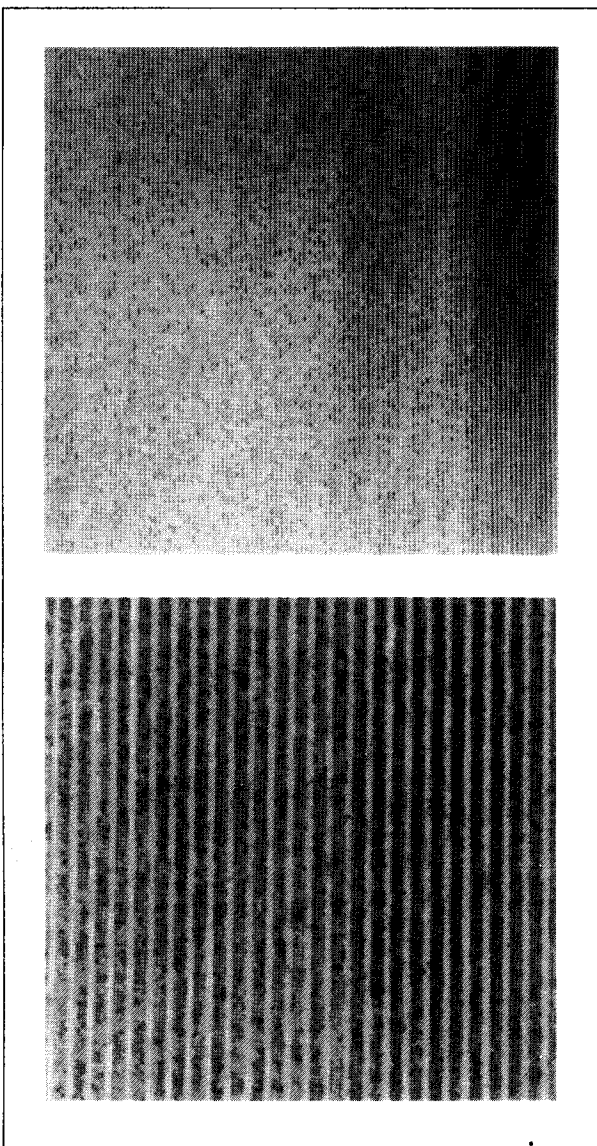

Fig. 4.
**Condition:** Small particles all over the overlay. The light-alloy metal shows no changes of importance, see fig. 4.